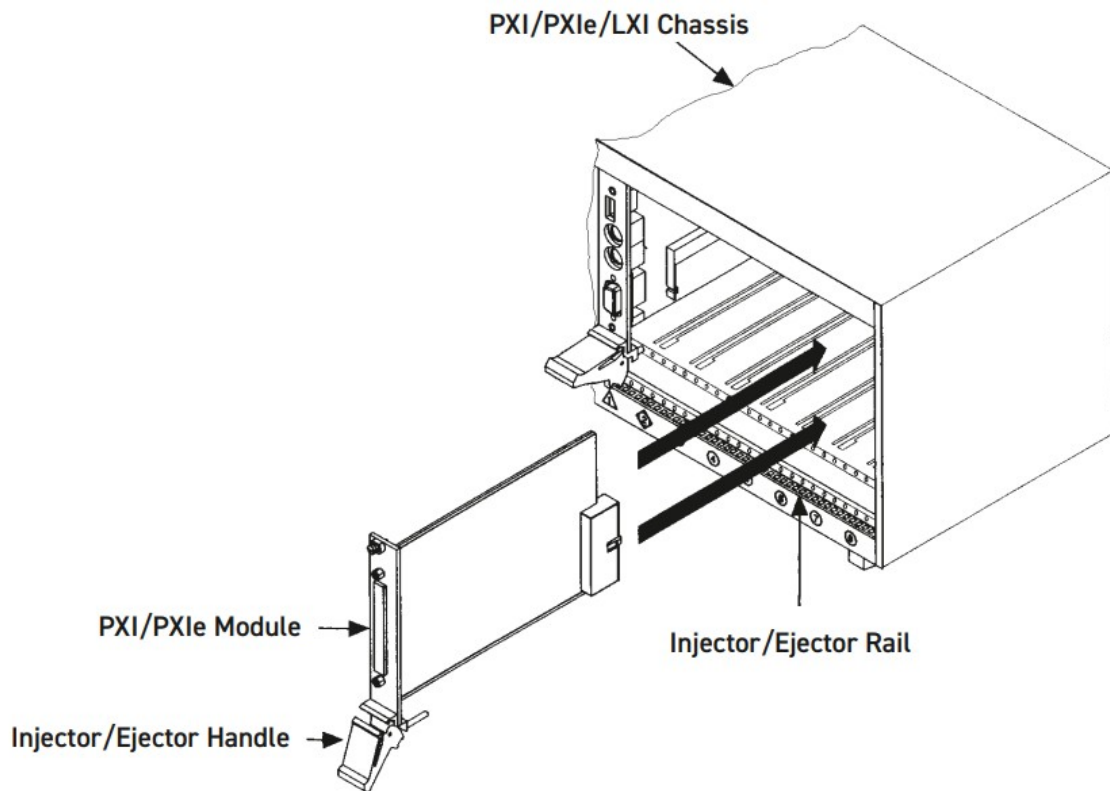

Figure 3.1 – Installing the Module into a PXI/PXIe/cPCI/LXI Chassis
5. Hold the handle whilst slowly sliding the module into the card guides until the handle catches on the injector/ejector rail (refer to Figure 3.1).